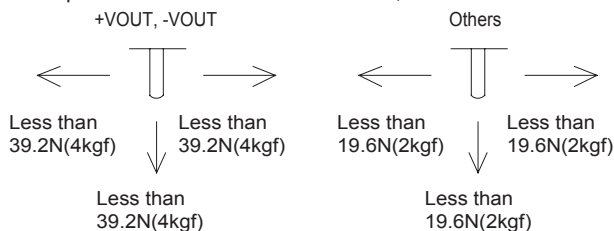

Fig. 6.1 Stress to the pins
- When too much stress is applied to the pins may damage internal connections. Avoid applying stress in excess of that shown in Fig. 6.1.